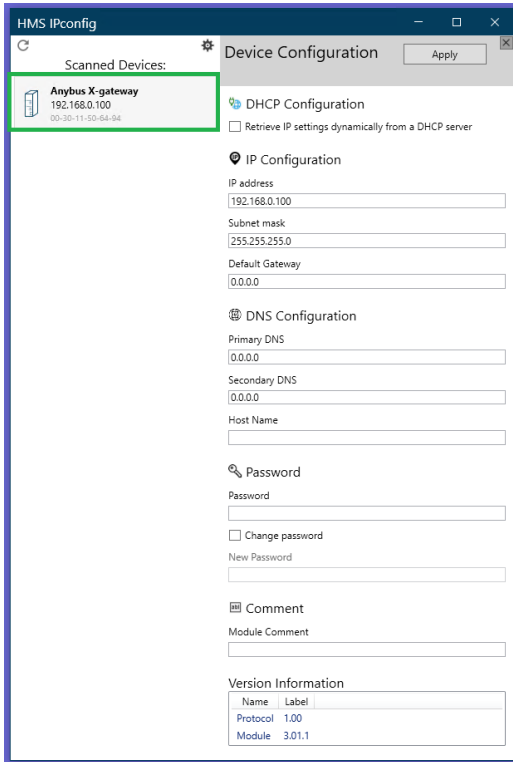

Figure 6
- c. Within about 5 seconds it should find the gateway as shown in green in Figure 6.